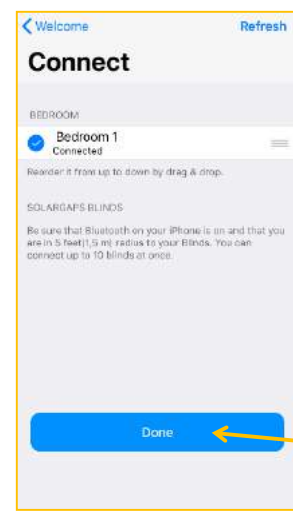

Figure 7
10.2.3.4. Click **Done** to confirm the connection (Fig. 7).